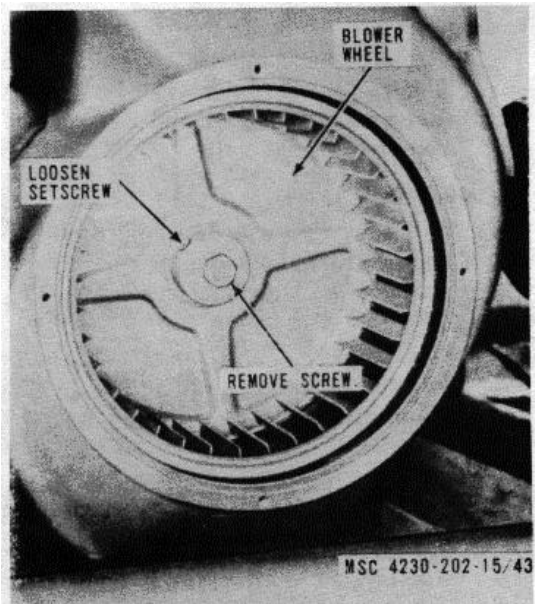

Figure 3-36. Blower wheel, removal and installation
- (1) Remove the blower scroll and screen (para 3-55).
- (2) Refer to figure 3-36 and remove the blower wheel.
- (1) Refer to figure 3-36 and install the blower wheel.
- (2) Install the blower scroll and screen (para 3-55).